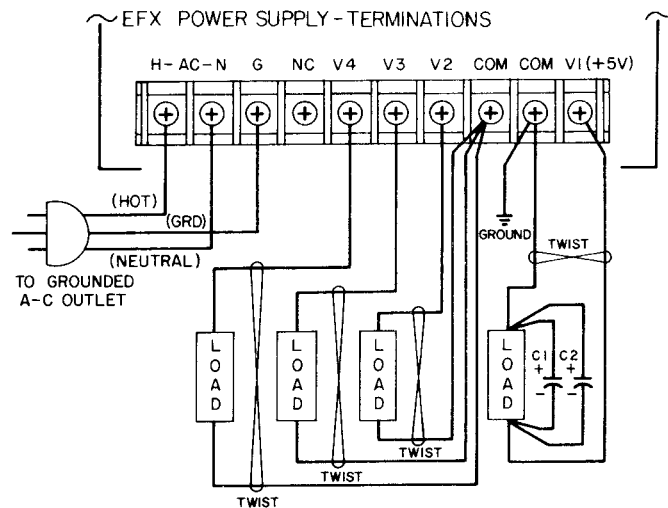

FIG. 2-3 RECOMMENDED LOAD CONNECTIONS
- 2-13 The load should be connected to the individual outputs of the EFX power supplies as indicated in FIG. 2-3. Load wires should be as short as possible. Select the heaviest practicable wire gauge and twist all loadwire pairs tightly.
- 2-14 As shown in FIG. 2-3, each load has its own return to the common ground point. The two terminals "COM" are internally connected. If the common ground point must be established elsewhere, then all load return wires should terminate at the new ground point. THE IMPORTANCE OF A SINGLE GROUND POINT IN THE LOAD CIRCUIT CAN NOT BE OVERSTATED. MULTIPLE GROUND POINTS RESULT IN GROUND LOOPS WHICH CAUSE GREATLY INCREASED RIPPLE AND NOISE. For minimum ripple and noise at the load, an additional filter may be required at each load (see FIG. 2-3, 5V output). The filter consists of a pair of low/high frequency bypass capacitors (C1 = 50 μ F electrolytic, C2 = 0.1 μ F film-type).